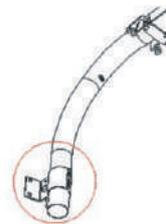

Fig.7
6. Secure clamp onto the base of the arm, as shown in Fig. 7. Ensure that the arm does not rotate.